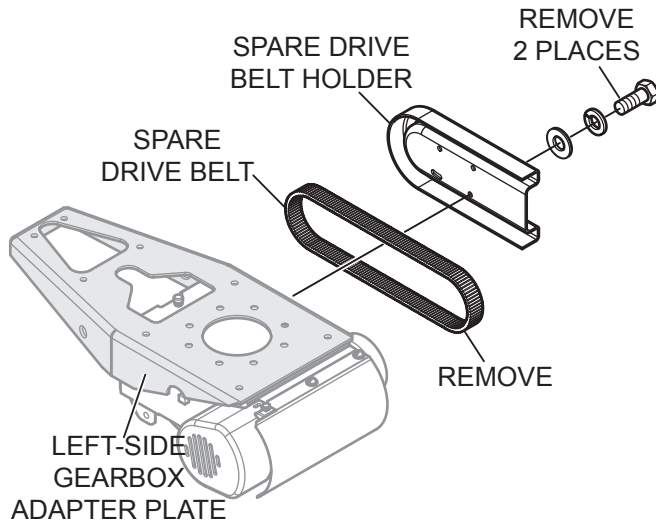

Figure 19. Spare Belt Removal
1. To replace an existing drive belt with the spare drive belt, remove the 2 bolts that secure the spare belt holder to the left-side gearbox adapter plate (Figure 19). Take care to not contaminate the replacement drive belt with grease or dirt.